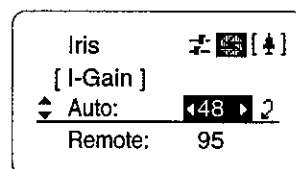

Fig. 1-4
4. Push the left or right key until the numerical value which will serve as the desired setting appears on the display. (Fig. 1-4)